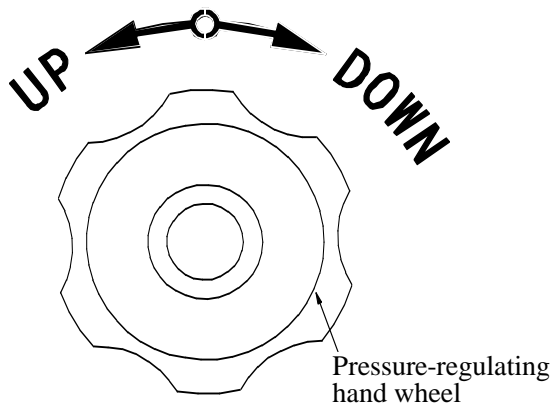

Figure 1
2. Clockwise turn the two pressure-regulating hand wheels and lower the front and rear top rolls respectively. (Note: Continue to turn the wheels even after the front and rear top rolls are lowered so that the two rolls are completely pressurized.) (The operation is as shown in Fig. 1):
7. As shown in Fig. 1, raise the top rear tractive roll, turn the leveling hand wheel counterclockwise, and regulate the curling-preventing device to a position relatively